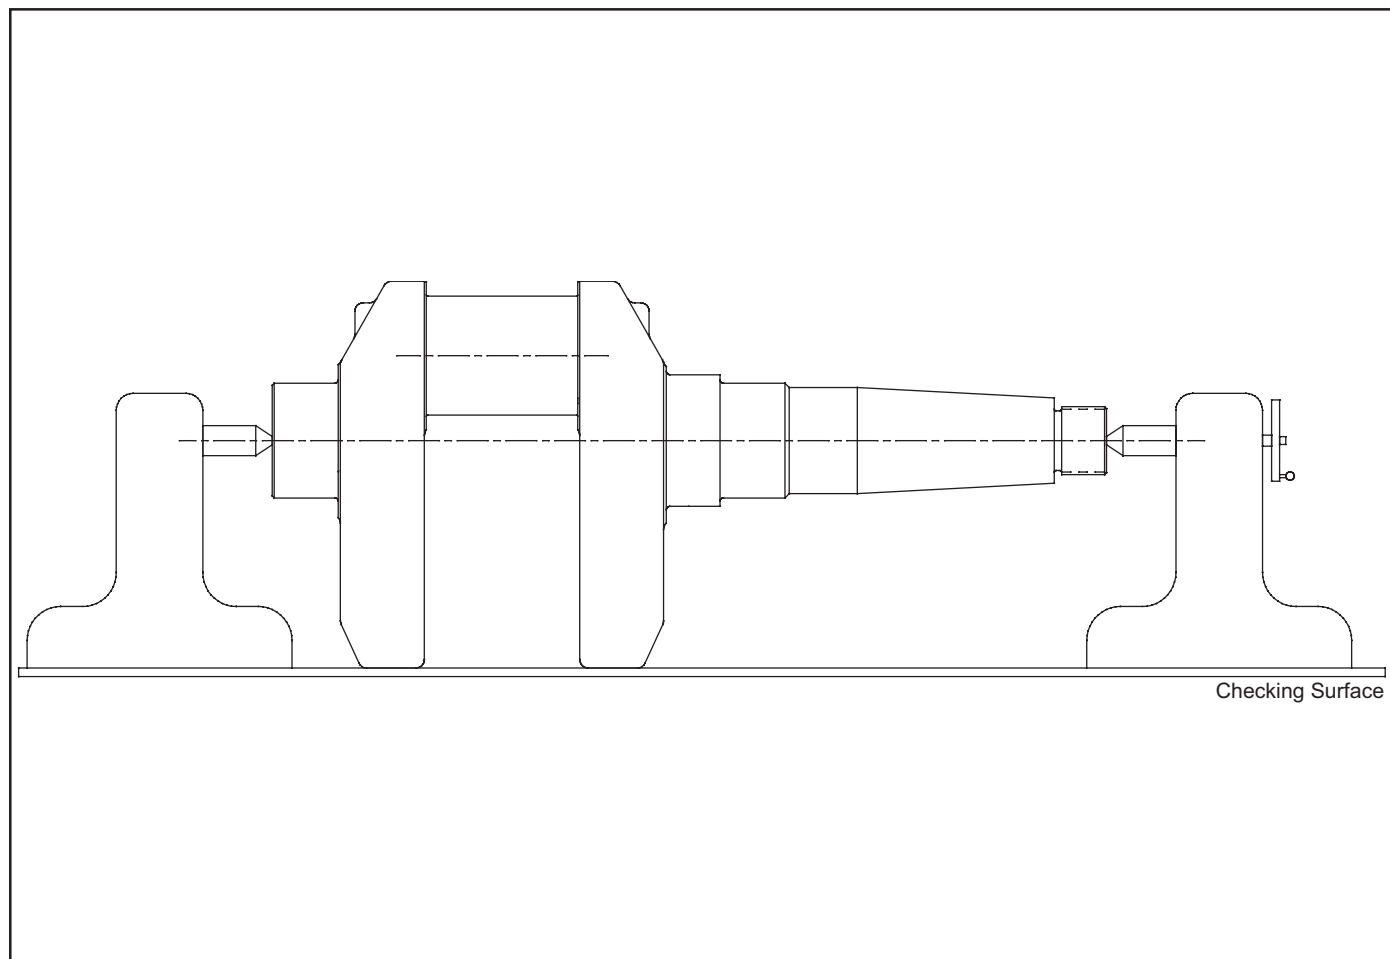

Figure 12 - Crankshaft Undersize Dimensions & Alignment Specifications
Reference Figure 12
14.7.9 Place the crankshaft in a checking device similar to the one shown in Figure 12 and make sure the crankshaft is running true.